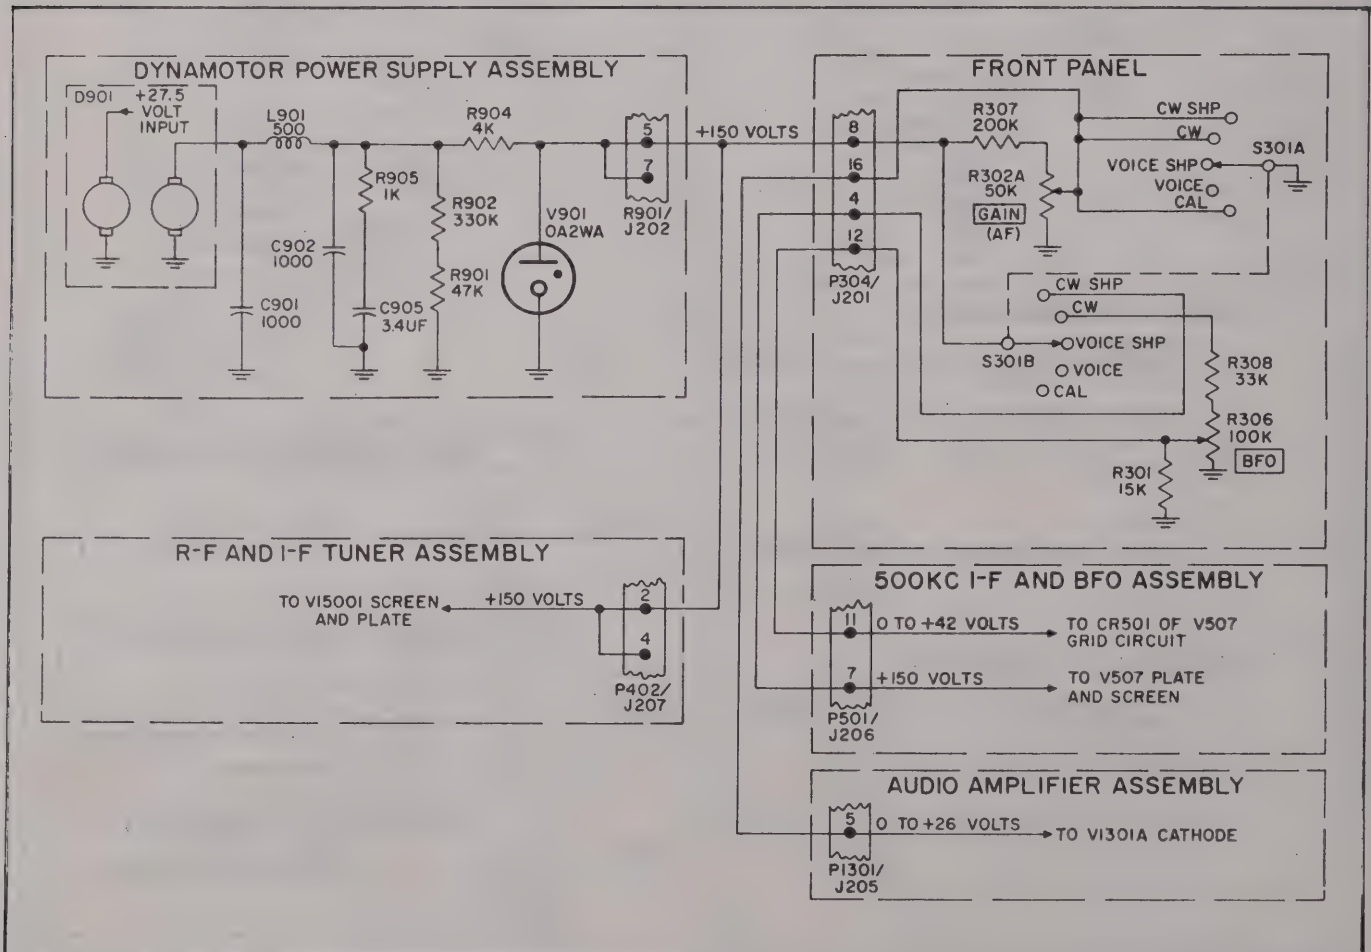

Figure 6-6. Radio Receiver R-648/ARR-41, 150-Volt Regulated Line
the voltages should be measured at the various plug and jack terminals as indicated in figure 6-6. This will give a quick check for open wires in the inter-connecting cables and will help isolate trouble within a particular assembly.
**6-29. THE 150-VOLT REGULATED LINE.** (Refer to figure 6-6.) The 150-volt regulated voltage is provided by voltage regulator tube V901 and dropping resistor R904 in the dynamotor power supply assembly. Output to the r-f and i-f tuner assembly and the front panel is provided by terminals 5 and 7 of P901/J202. Resistor R302A and switch S301A on the front panel provide a means of varying the cathode bias of V1301A in the audio amplifier assembly when the EMISSION switch (S301A) is in the VOICE or VOICE SHP positions. Plate and screen voltage to the bfo tube is applied only when switch S301B is in either the CW or CW SHP positions, thus preventing the bfo from operating except during cw reception. Resistor